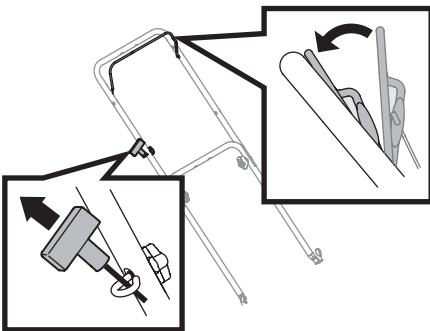

Figure 6
1. Standing behind the mower, pull the blade control handle back against the upper handle (Figure 6).